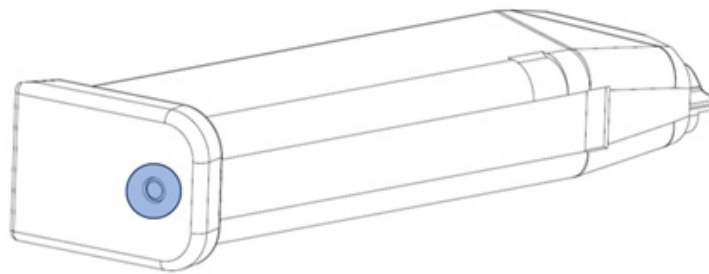
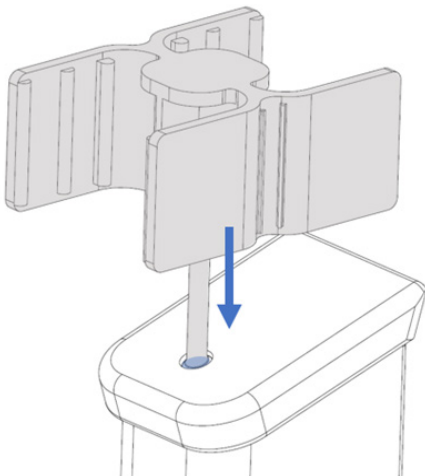

Figure 61: Retention pin indicator on the magazine’s insert.
Figure 62: Positioning of the tool/punch to insert the retention pin of the magazine’s insert.
3. The magazine’s insert includes a retention pin to secure in place the floor plate. Firmly hold the magazine with one hand. With the other hand, press the retention pin of the magazine’s insert inward using the Glock tool/punch (Figure 61 / Figure 62).